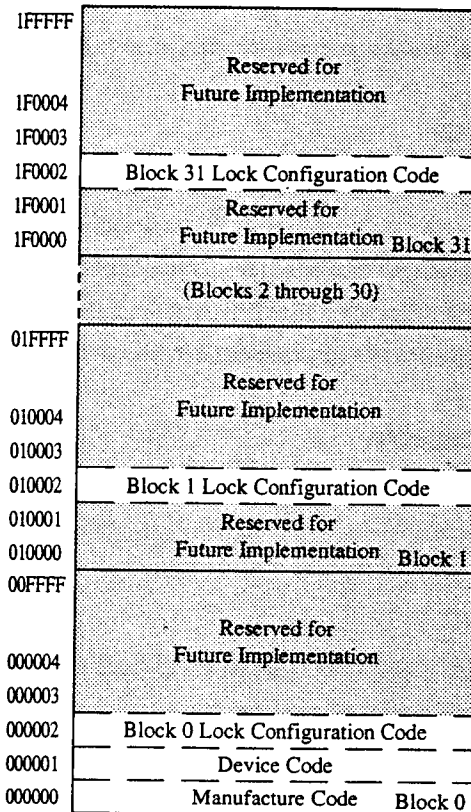

Figure 1. Device Identifier Code Memory Map
The read identifier codes operation outputs the manufacturer code (Block 0), device code (Block 0), and block lock configuration codes (for each block), see Figure 1. Using the manufacturer and device codes, the system CPU can automatically match the device with its proper algorithms. The block lock codes identify locked and unlocked blocks.
IA = Identifier Code Address: see Figure 1.
The host initiates the identifier code operation by writing the Read Identifier Codes command. Following the command write, read cycles from addresses shown in Figure 1 retrieve the manufacturer, device and block lock configuration codes (see Table 3 for identifier code data). To terminate the operation, write another valid command. Although Table 3 lists the device code as AAAA, other Sharp's Flash Memory Card could also have device codes A6A6 or A7A7. Host software should check for all three cases for compatibility with future cards.
1. × selects the specific block lock configuration code to be read. See Figure 1 for the device identifier code memory map.